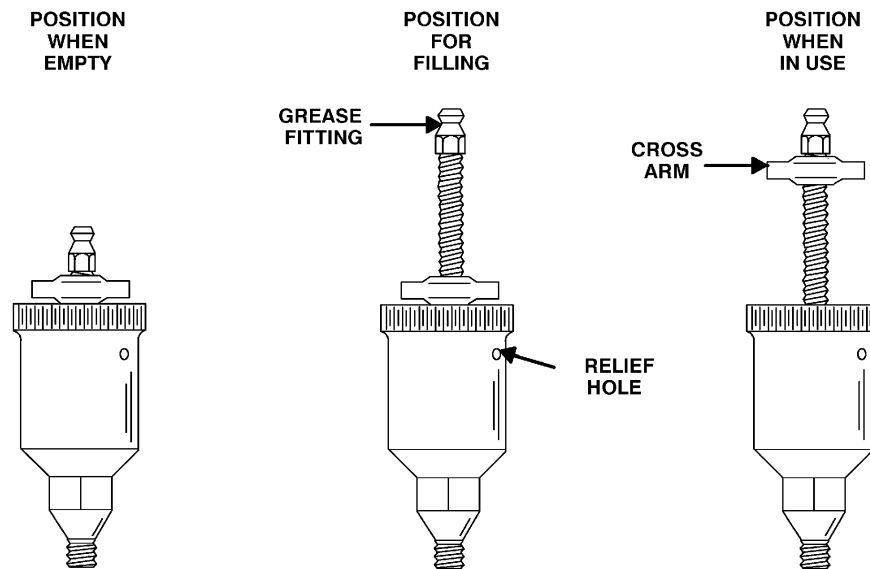

Figure 4. Automatic Lubricating Grease Cup
Before removing the impeller, turn the cross arm on the automatic grease cup (14) clockwise until it rest against the cover (see Figure 4). This will prevent the grease from escaping when the impeller is removed. Remove the grease cup (14).
Fill the grease cup (14) through the grease fitting with No. 2 lithium base grease until grease escapes from the relief hole. Turn the grease cup arm counterclockwise until it is at the top of the stem; this will release the spring to apply grease to the seal (see Figure 4).